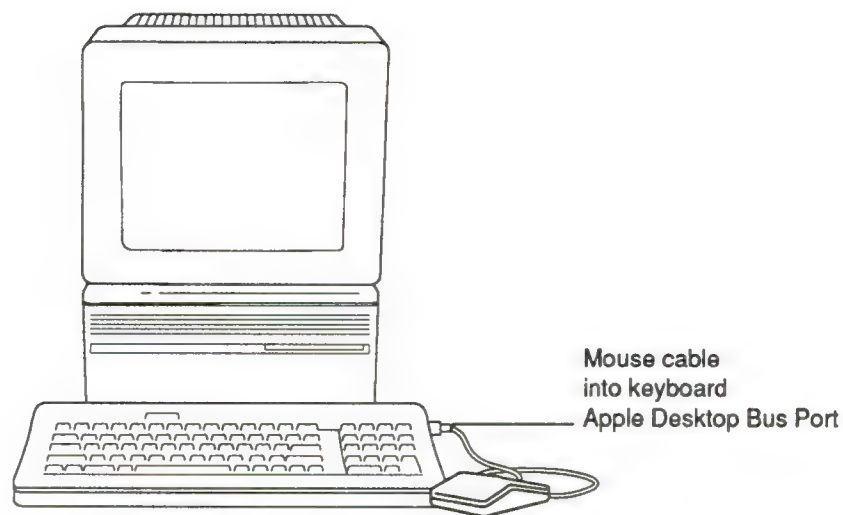

Figure 29. Connecting the mouse to the right side of the keyboard
15. With the keyboard facing you, plug the mouse cable into the port on the right side of the keyboard, as shown in Figure 29.